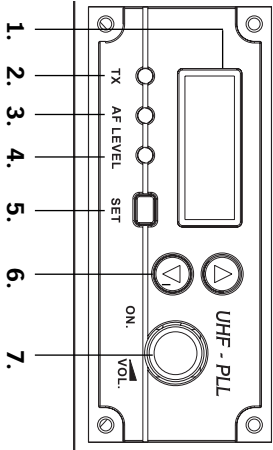

Fig. 6: Transmitter Front & Rear Panel
5. The module is now ready to transmit signal to the receiver unit (C 7281A). When transmitting audio the TX indicator will light green. The AF indicator displays audio level when users are speaking into a mic or music is playing. In addition individual transmission indicators are provided for wired mic input and aux/line input (number 3 & 5 respectively on Fig. 6). These will illuminate whenever signal from each input is being transmitted.